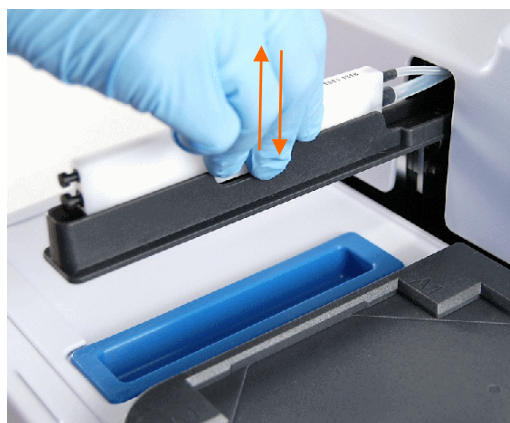

Figure 10. Fitting the 1x8 wash head onto the wash head arm
3. Fit the wash head onto the wash head arm with the tips pointing downwards and ensure that the wash head moves freely up and down in the wash head arm slot (Figure 10).